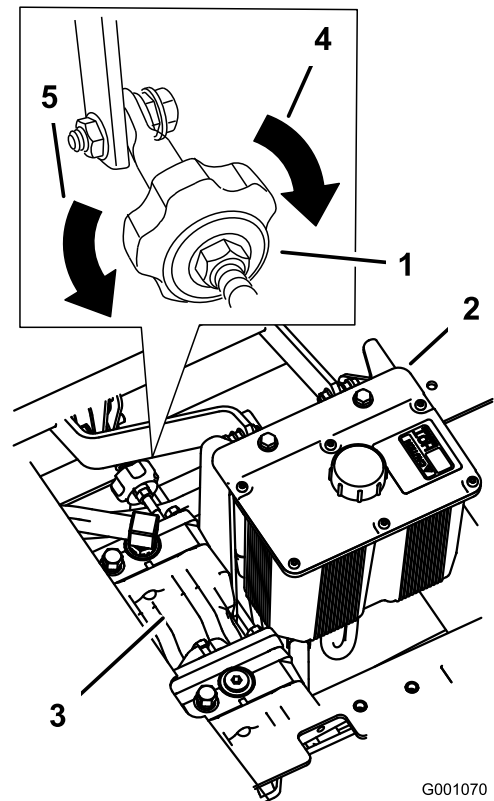

Figure 52
4. To make the machine go right, turn the knob towards the rightside of the machine. Refer to Figure 52.
5. To make the machine go left, turn the knob towards the leftside of the machine. Refer to Figure 52.